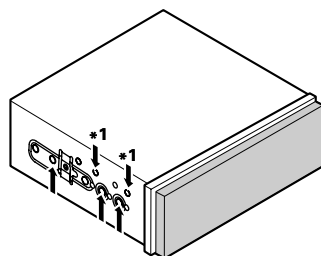

Fig. 17
- Fastening the unit to the factory radio mounting bracket. (Fig. 17) (Fig. 18) (Fig. 19)